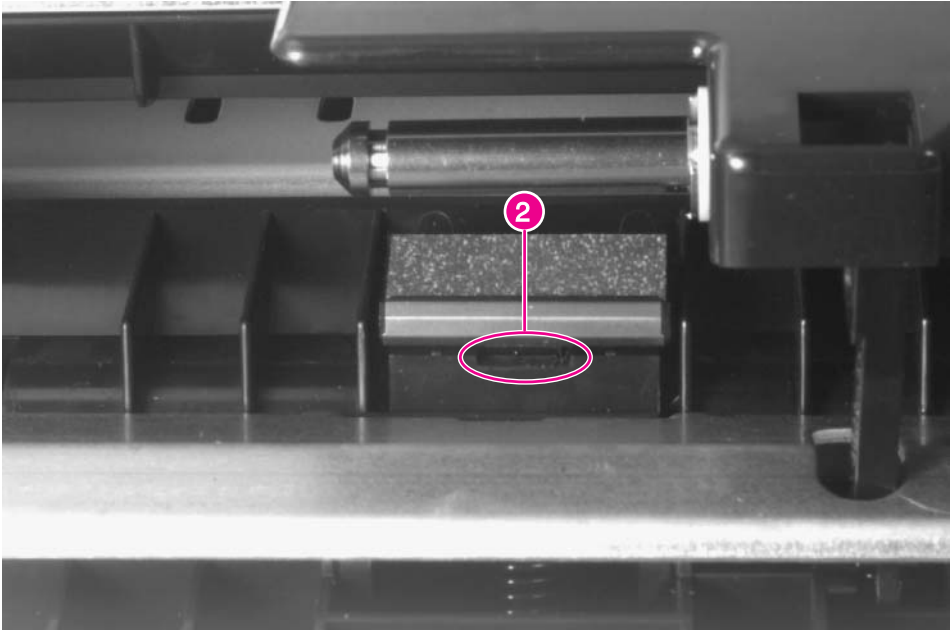

Figure 6-55 Tray 1 Separation Pad
- 2** Insert a flat-bladed screwdriver into the slot (figure 6-55, callout 2), and carefully pry the separation pad upwards out of its retaining notches.